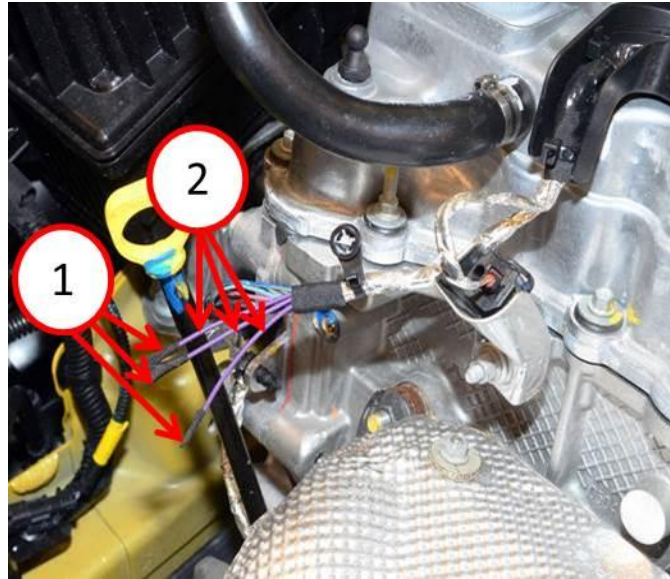

Fig. 4 Electrical Tape And Wire Ends
9. Remove and discard electrical tape from three wire ends (Fig. 4).